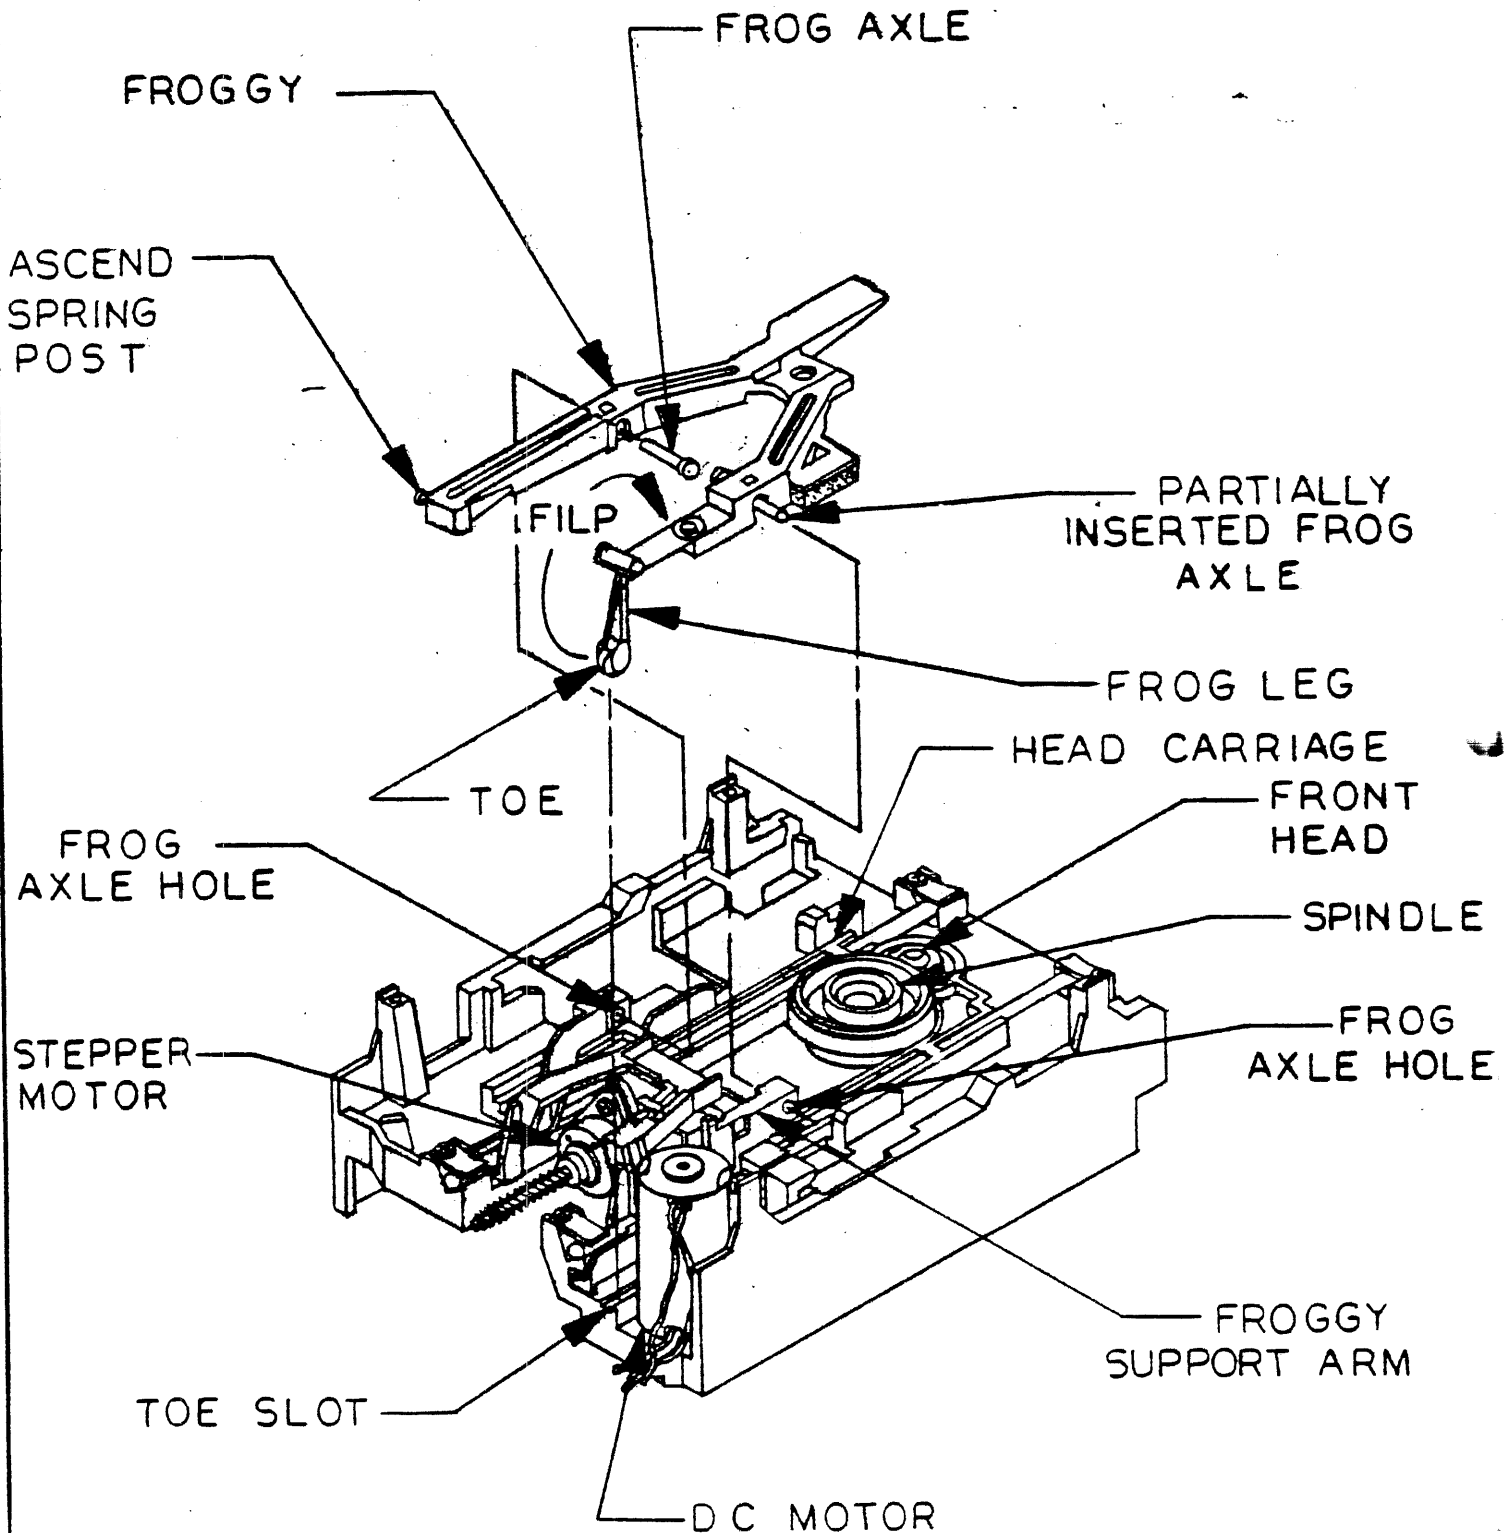

FIGURE 3. THE INSTALLATION OF THE FROGGY.
- 7.2.1 Hold the froggy over the chassis as shown in Fig. 3. While holding the head-carriage towards the rear of the chassis, insert the frog leg toe into the toe slot located on the side of the head-carriage near the D.C. motor.
- 7.2.2 Partially insert the frog axles into the froggy so that the ends of the axles are flush with the outer edge of the froggy. (See Fig. 3)
- 7.2.3 Line up the frog axles with the holes in the froggy support arms. (See Fig. 3.) Insert the axles fully into the holes.